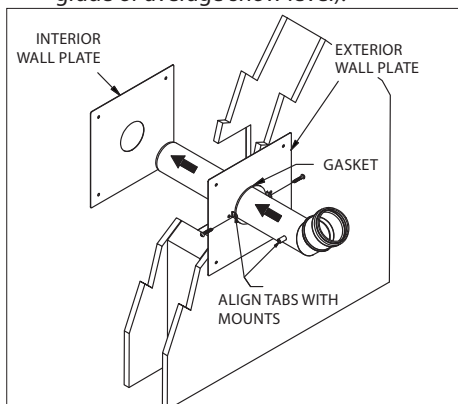

**Figure 8**
4. Every horizontal vent run must be supported. **(Fig.8)**
6. Vertical pipe lengths must be supported every 10 feet (3 meters) or less. Horizontal pipe lengths must be supported every 5 feet (1.5 meters) or less. **(Fig.8)**
7. Elbows and Tees are sufficiently supported by attaching a wall support within 1" to 12" of the pipe joint holding the Elbow or Tee. **(Fig.8)**